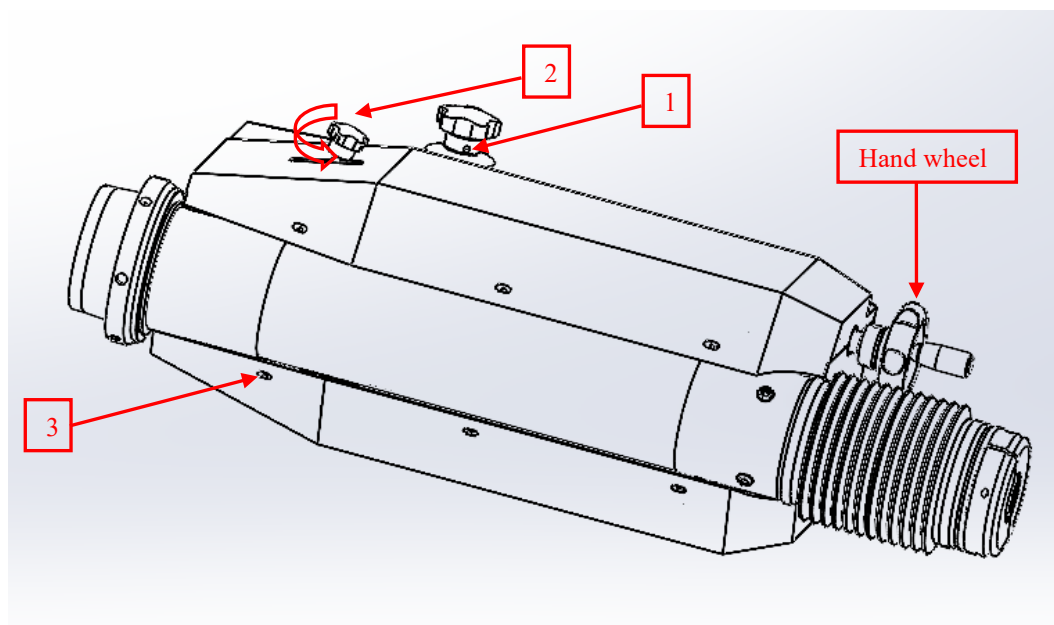

Figure 1.1
- 1.1.3 Unscrew the two locking grub screws shown in figure 1.1 – position 1 and pull out the gear lever;
- 1.1.4 Unscrew the welding engagement lever knob shown in figure 1.1 – position 2;
- 1.1.5 Unscrew the lower housing fixing screws, as shown in figure 1.1 – position 3;